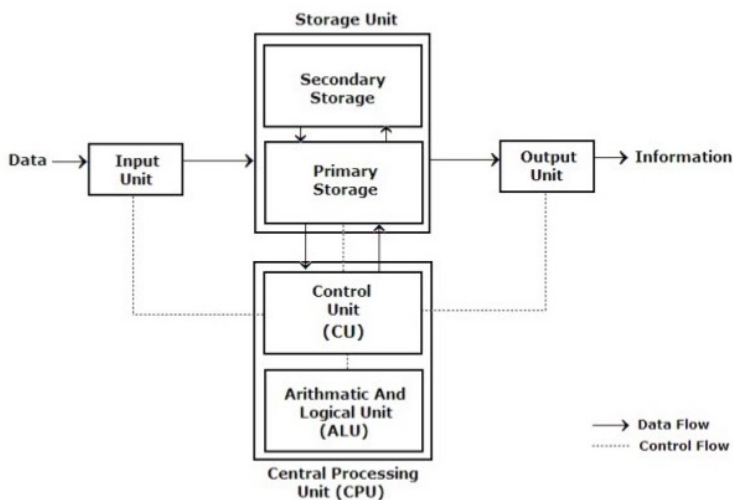

Fig. 11. Block diagram of computer
3. Describe the diagram (fig. 11) of a computer system layout and operation using the correct form of the passive of these verbs: *to feed, to input, to process, to control, to store, to output, to display.*